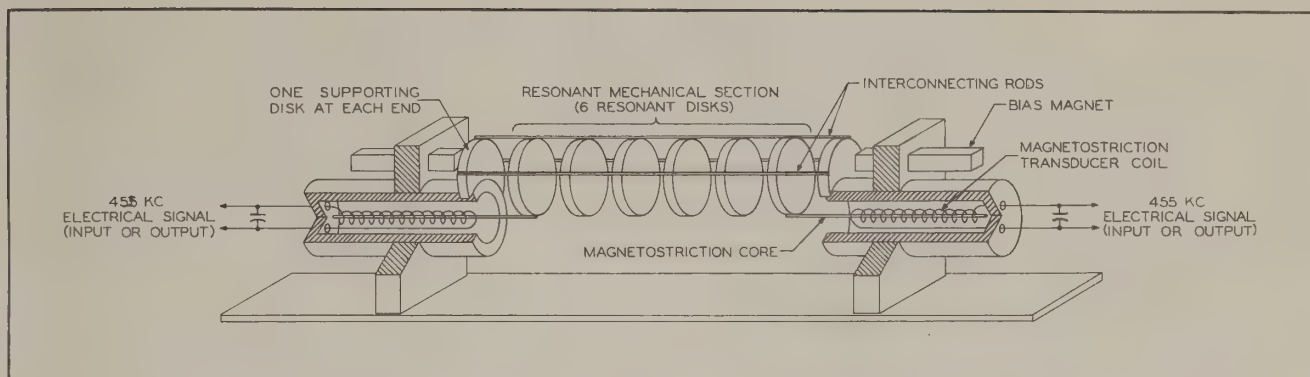

Figure 4-2. A Collins Mechanical Filter, Functional Diagram
e. MECHANICAL FILTER. The functional diagram of the Collins Mechanical Filter is shown in figure 4-2. The mechanical filter uses the principle of magnetostriction to convert electrical energy to mechanical vibration. The magnetostriction transducer input coil is resonated at 455 KC. A nickel wire within this coil vibrates mechanically and transmits this mechanical energy to the first of a series of nickel alloy discs. The mechanical vibration of this first disc is coupled to succeeding